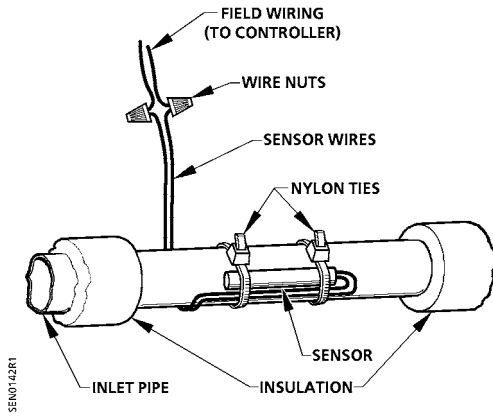

Figure 3. Installing the Pipe Sensor.
3. Loop the nylon ties around the pipe. Place the sensor in position under the ties on the pipe. Route the sensor wires under the nylon ties for strain relief. Pull the free end of each tie to tighten. Cut off excess tie, leaving about 1/4-inch (6 mm). See Figure 3.
5. Using two of the wire nuts provided, connect the sensor wires to the field wires. See Figure 3.